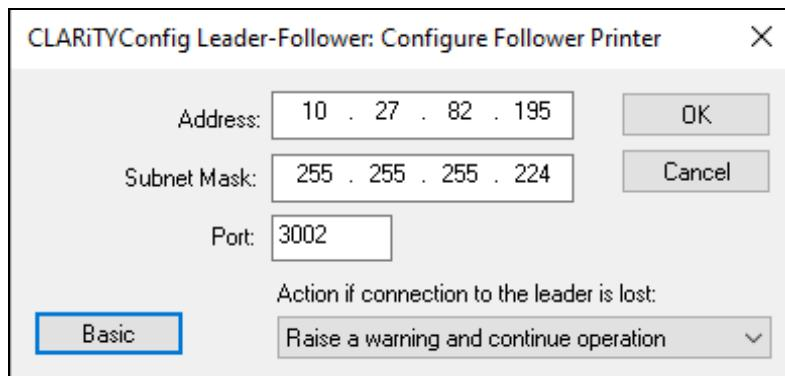

Figure 8-11: Advanced Configure Follower LPA Dialog Box
- 3 Click on the Advanced button, to change to advanced configuration. The advance configure Follower printer dialog box appears (Figure 8-11).
The advance configure Leader printer dialog box appears (Figure 8-11).